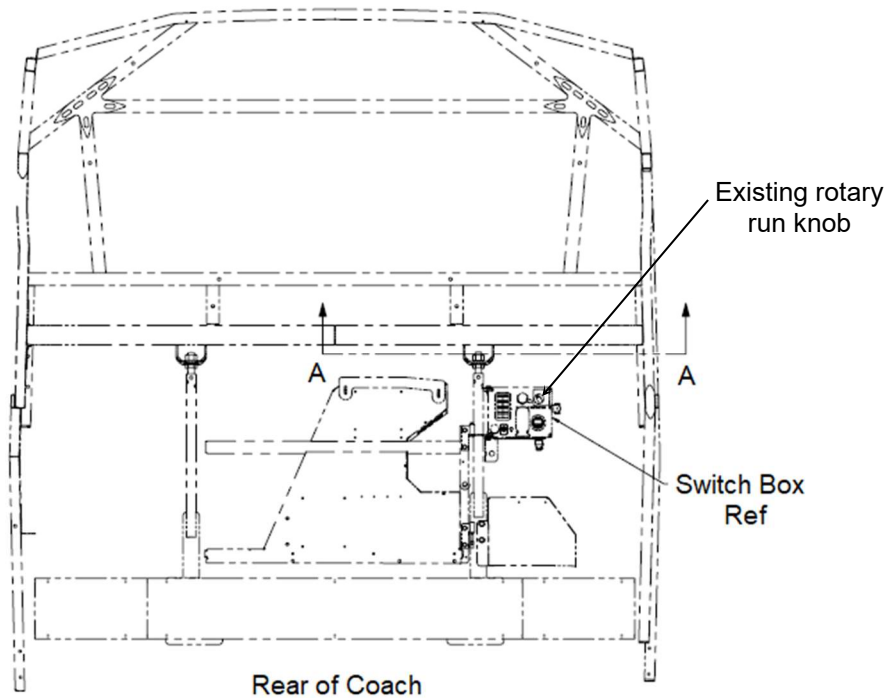

Figure 1: Switch Box Location
3. Locate the switch box as shown in Figure 1 and examine the existing rotary run knob, if cracked or degraded replace with new knob p/n 831315.